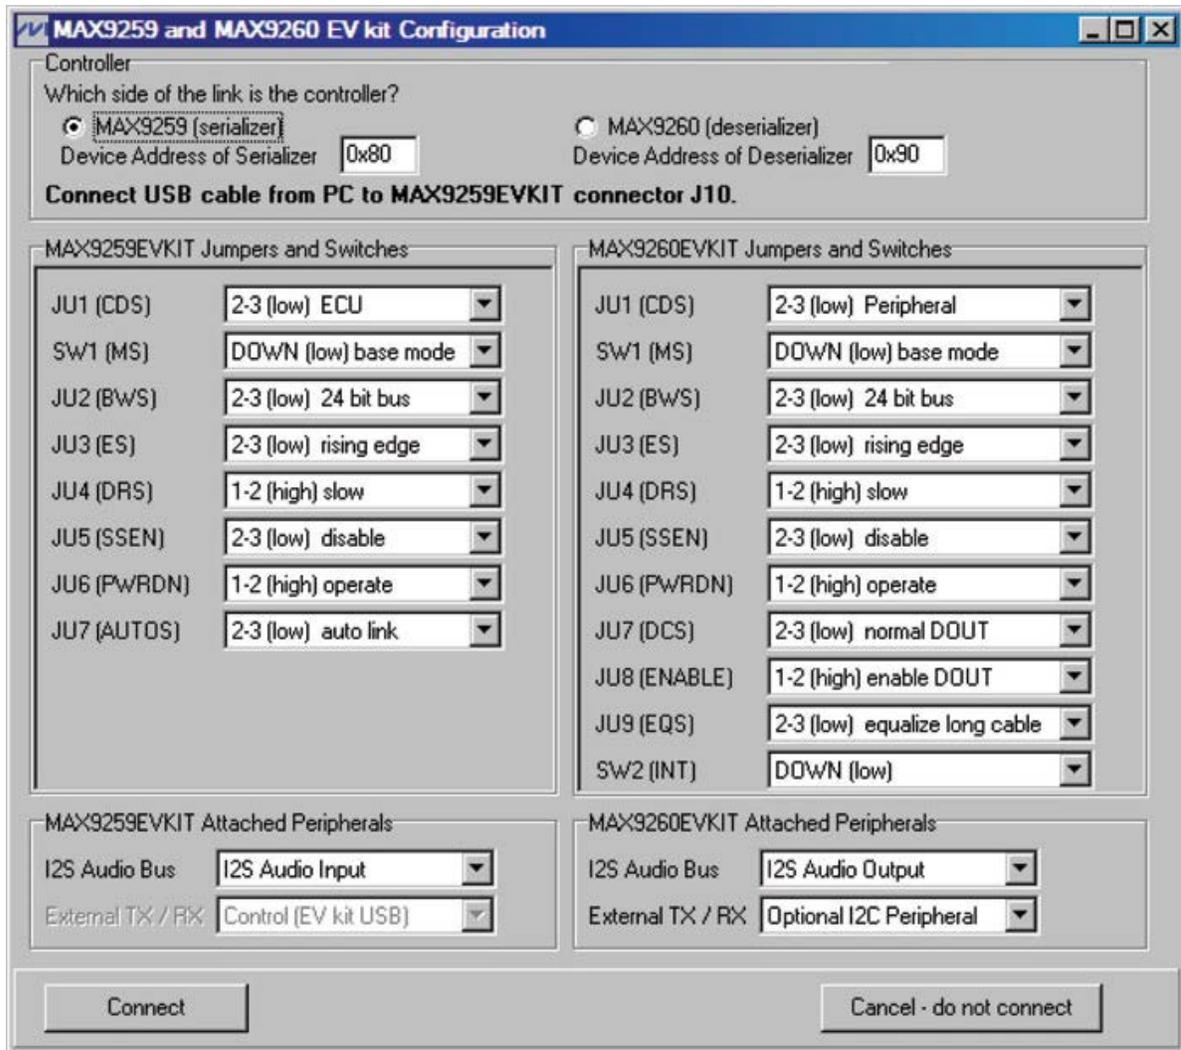

Figure 2. MAX9259/60 EV kits software configuration window.
9. Start the MAX9259/MAX9260 EV kit program by opening its icon in the **Start | Programs** menu. The EV kit software configuration window appears as shown in **Figure 2**.